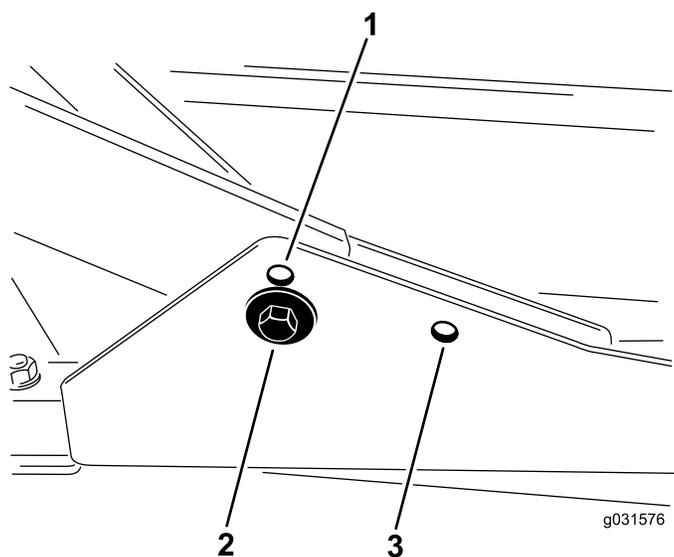

Figure 15
2. For heights of cut in the 6.3 to 10 cm (2-1/2 to 4 inches) range, mount the front carrier frames in the upper, front mounting holes (Figure 15).
For all heights of cut, mount the rear cutting deck in the rear mounting holes (Figure 15).